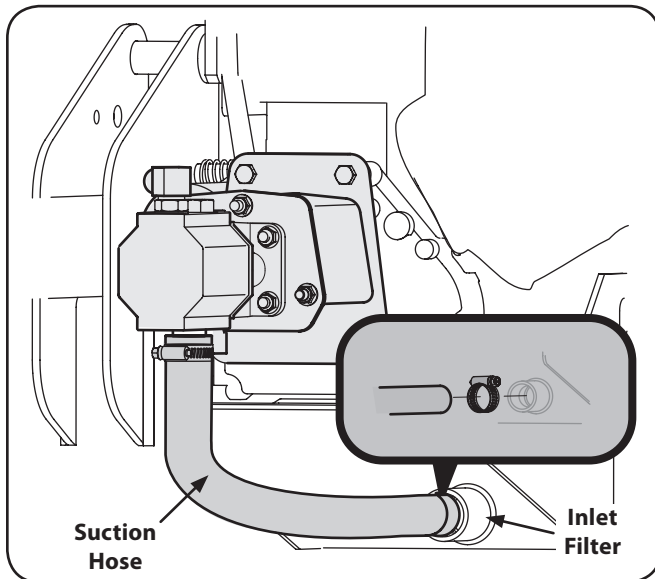
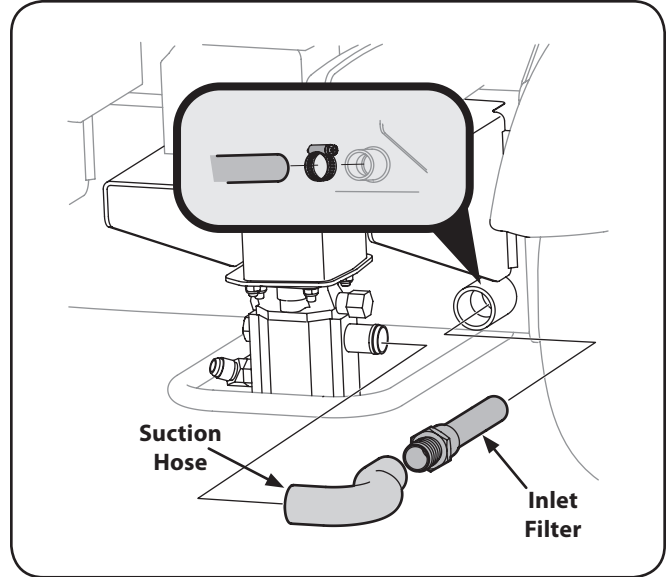

Figure 6-1
Figure 6-2
2. If your engine has a horizontal engine set-up shown in Figure 6-1, See Figure 6-1 for changing the hydraulic fluid.
3. If your engine has a vertical set-up shown in Figure 6-2, see Figure 6-2 for changing the hydraulic fluid.
4. Disconnect the suction hose from the bottom of the reservoir tank. See Figure 6-1 for horizontal engines or Figure 6-2 for vertical engines.